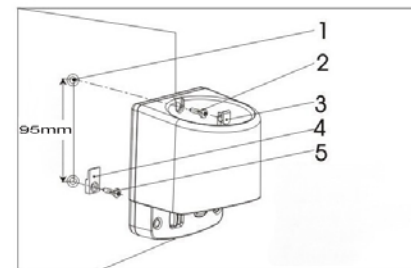
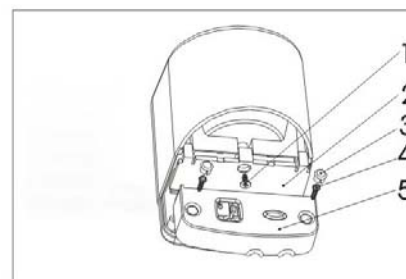
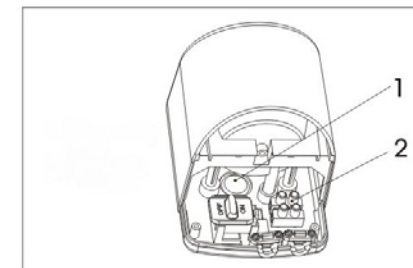

Fig. 2
Fig. 3
Fig. 4
- ❶ Mark and drill 2 holes vertically underneath each other, 95 mm apart, as shown in Fig. 2. Use 6 mm drill. Insert the enclosed dowels into the holes and fix the plastic hanger (marked 4 on Fig. 2) in the lower screw hole.
- ❷ Slide the base plate of the holder in place onto the hanger, thus attaching the base plate. Fix the holder onto the wall and use the enclosed plastic
cap (marked 3 on Fig. 2) to cover the upper screw hole.
- ❷ Remove the cover marked 5 on Fig. 3.
- ❸ Remove the power cable that came with the dryer from the terminal block.
- ❹ Press to remove the plastic bit marked 1 on Fig. 4 to create cable entry for fixed installation. Pull the cable from the wall through the hole and slide the base plate of the holder in place onto the hanger, thus attaching the base plate. Connect cable to terminal block (marked 2 on Fig. 4).
- ❺ Reattach the cover marked 5 on Fig. 3, and fix the dryer onto the wall using the enclosed screw (marked 1 on Fig. 2).
- ❻ The unit is ready for use when plugged in, and when the power switch is in ON position.